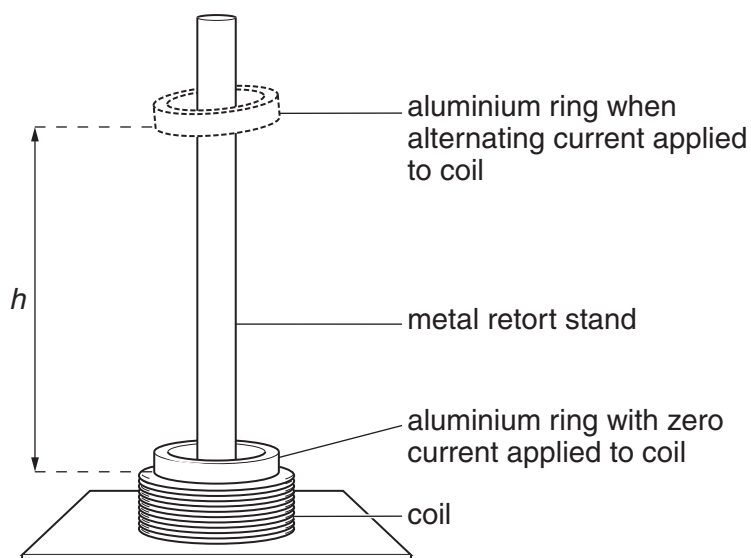

Fig. 1.1
- 1 An aluminium ring is placed on a coil with the rod of a metal retort stand passing through their centres, as shown in Fig. 1.1.